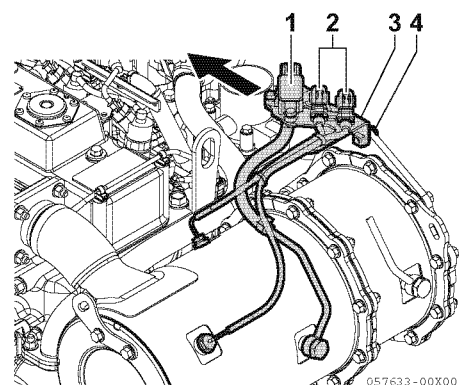

Figure 13-11
- Loosen the sensor bracket (**Figure 13-11, (3)**) M8 flange bolts (2 pcs.) (**Figure 13-11, (4)**) that mount the exhaust differential pressure sensor (**Figure 13-11, (1)**) and the exhaust temperature sensor coupler (**Figure 13-11, (2)**), and remove.
- Remove the stiffeners (4 pcs.) (Figure 13-11, (3)), gasket (1 pc.), and the silencer (or outlet flange).